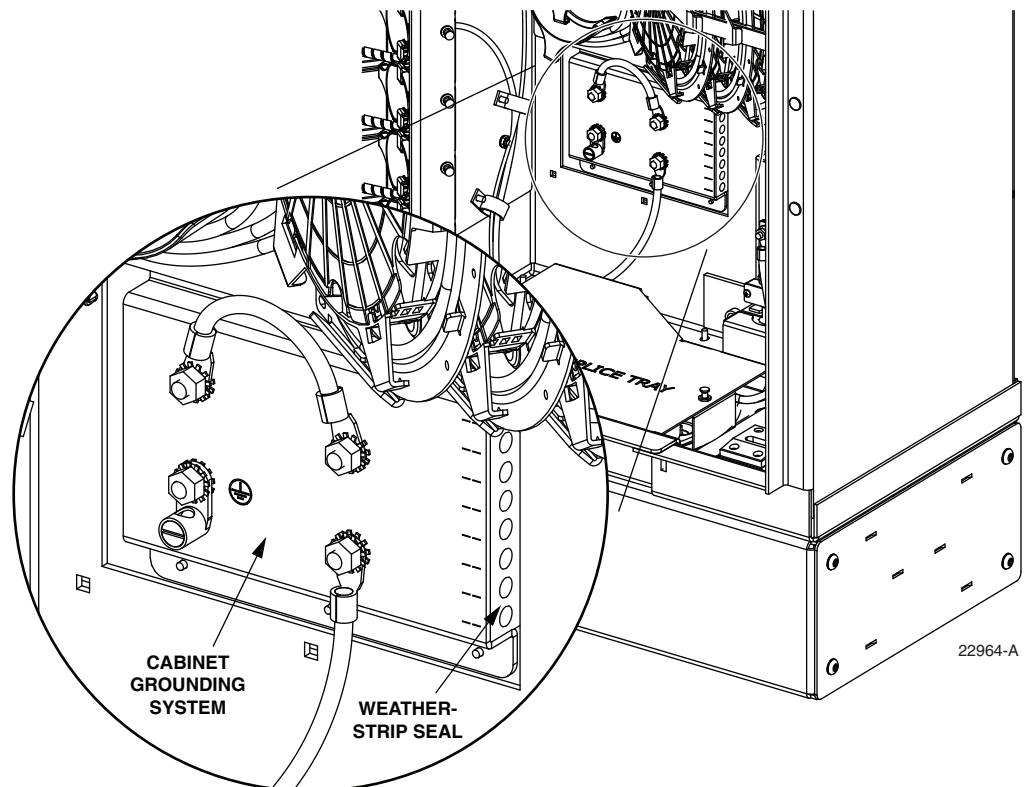

Figure 29. Cable Grounding System - Interior View
2. Locate the weather-seal strip attached to the right side of the cabinet grounding system as shown in Figure 29.